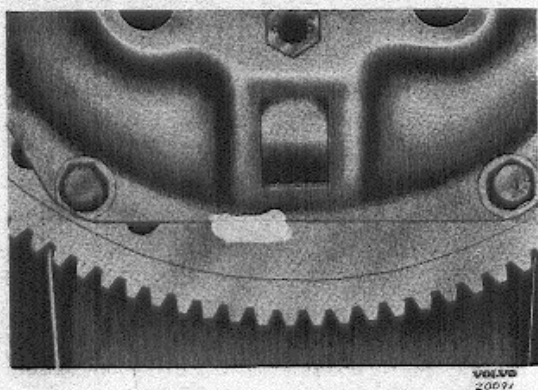

Fig. 6. Marking of clutch and flywheel.
6. Check that the clutch and flywheel are marked with paint as shown in fig. 6. If this is not the case, mark the clutch and flywheel together with the pressure plate with a centre punch. This must be done so that when refitting the clutch after repair it will resume the position in which it was previously fitted so that the original balance is maintained. Turn the flywheel round to make sure that no earlier marking exists.
1. Turn the flywheel so that the paint marking or the marking made when removing, is visible. See fig. 6.